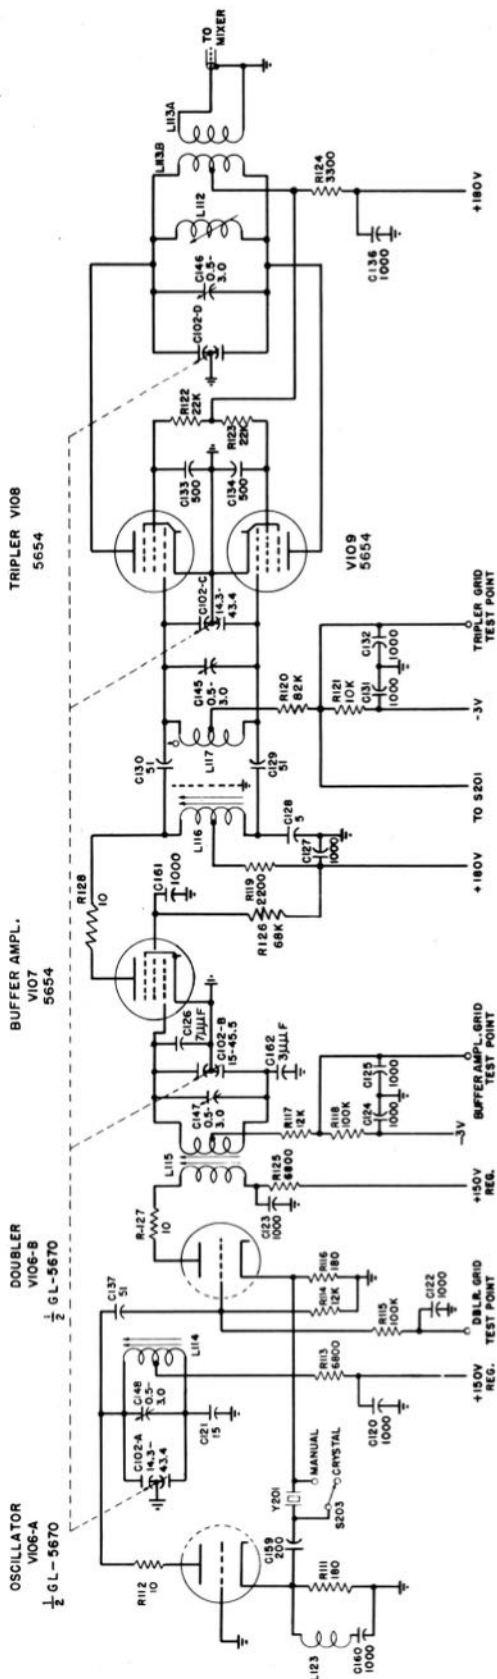

Figure 2-5. Simplified Schematic—Oscillator-Multiplier Section of Preslector
(2) **OSCILLATOR-MULTIPLIER SECTION.** (figure 2-5.) The oscillator-multiplier section gener-
ates the local injection signal 18.6 mc higher in frequency than the received signal. The basic oscillator frequency is generated in tube V106A and multiplied six times in a doubler and tripler which follow, as shown in the simplified schematic diagram, figure 2-5. A buffer amplifier V107, a type 5654 pentode, is connected between the doubler and tripler stages. Tuning of the various stages is accomplished by capacitor C102, which is a four-section capacitor, each section being of the split-stator type. The use of split-stator capacitors in the balanced tank circuits permits the use of a grounded rotor to reduce inter-sectional capacitance. Rotor grounding is accomplished by wiping contacts located between the capacitor sections. Since no appreciable r-f currents flow through these contacts, the inherent noise associated with wiping contacts is not present. Capacitor C102 is geared to the five-section capacitor C101 to provide single-control tuning of the receiver. The trimmer inductances and capacitors utilized in the oscillator-multiplier stages are integral parts of the tuning capacitor, similar to those described previously in subparagraph 2a (1) (b), this section.
(a) OSCILLATOR-DOUBLER. The oscillator and first doubler stages utilize a type GL-5670 dual triode (figure 2-5). One half of the tube, V106-A, functions as a grounded-grid oscillator. The second half of the dual triode, V106-B, is arranged as a split-load cathode follower, and serves as both a frequency doubler and a source of feedback to the oscillator cathode.
(c) **TRIPLER.** The tripler stage employs two type 5654 pentodes, V108 and V109, in push-pull (figure 2-5). The parallel-resonant grid circuit consists of coil L117, a section of capacitor C102, and trimmer C145, and is tuned to the 2nd harmonic of the oscillator frequency. The center tap of coil L117 is returned through resistors R120 and R121 to the -3 volt grid-bias tap on the power supply. This bias holding voltage functions to prevent excessive plate current in the tube if the driving potential is removed. The bias holding circuit is by-passed for r-f to ground by means of capacitors C131 and C132. A tap at the junction of resistors R120 and R121 provides a metering point for checking the driving voltage applied to the grids of the tripler tubes, by measuring the grid-leak bias developed across resistor R121. The tap is also connected to the ALIGN position of switch S201 for alignment purposes, as explained in paragraph 2e of this section.
and resistor R121 in the tripler circuit (figure 2-5). Both cathode and plate are at a negative potential of three-volts. As the tuned circuits of the oscillator, doubler, and tripler grid are tuned to resonance, the drive to the tripler circuit will increase. The portion of the resultant tripler grid-leak bias developed across resistor R121 is applied to the AVC diode cathode. Diode current will then flow, causing a negative voltage to appear on the AVC bus. This, in turn, will cause a reading on INPUT meter M501, as explained in paragraph 2b(1)(c). The greater the meter-deflection, the greater the drive and the grid-leak bias at the tripler grid; hence, an indication of alignment is obtained.